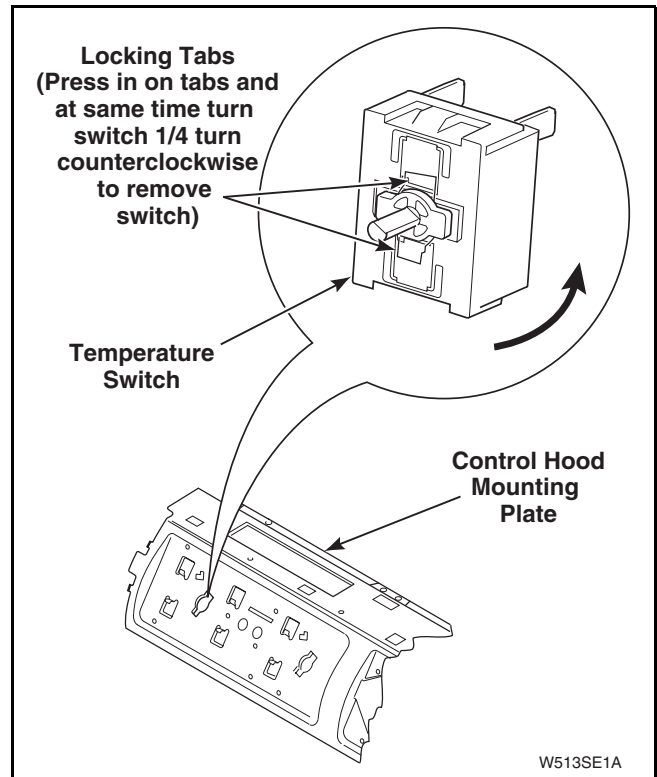

Figure 17
- Press in on two locking tabs and at the same time turn the switch 1/4 turn counterclockwise to remove switch from control hood mounting plate. Refer to *Figure 17*.